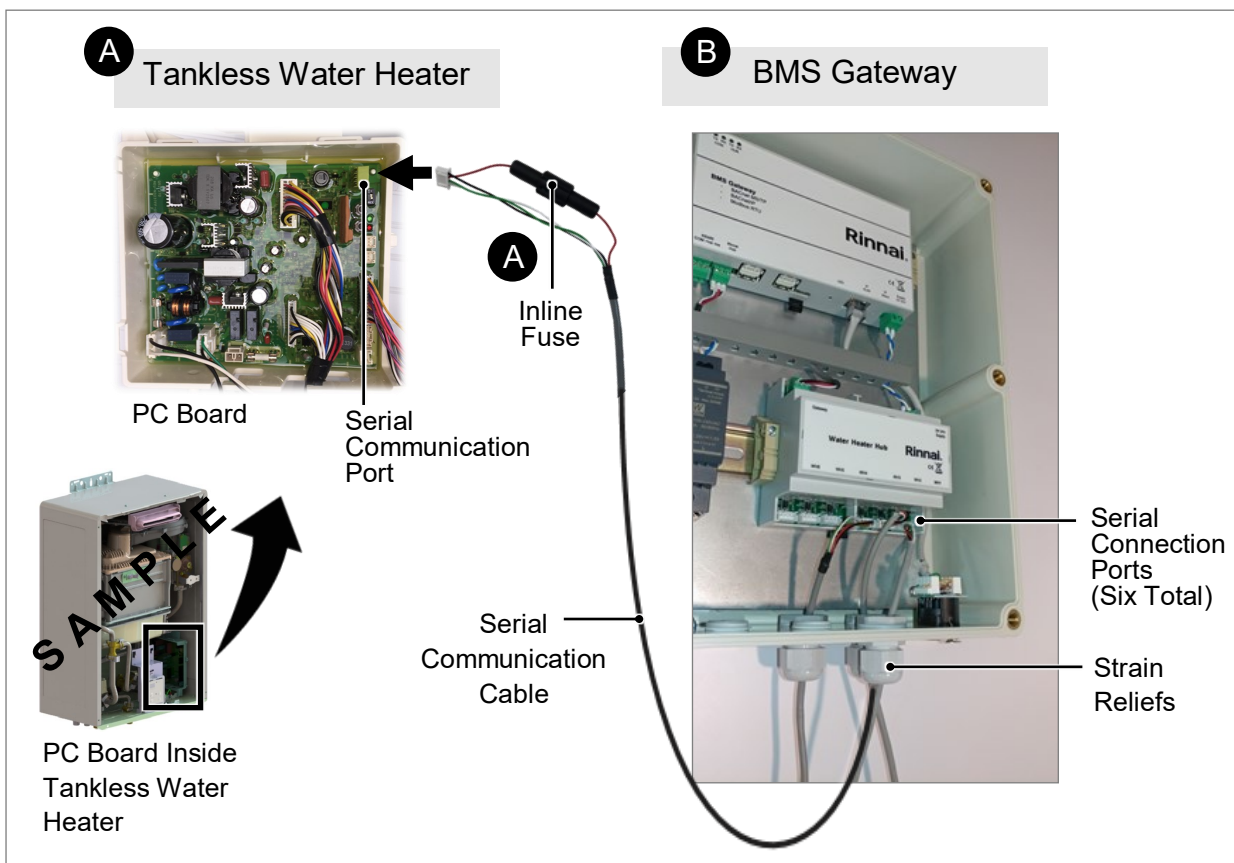

Fig 41. Sample Illustration of the Serial Communication Cable Connecting from the Tankless Water Heater to BMS Gateway.
- A. Connect the inline fuse side of the serial communication cable to the tankless water heater PC Board (see "A" in Fig 41).
- B. Route the other end of the serial communication cable through the BMS Gateway cable openings using the supplied strain reliefs and connect to the serial connection ports from right to left (see "B" in Fig 41).